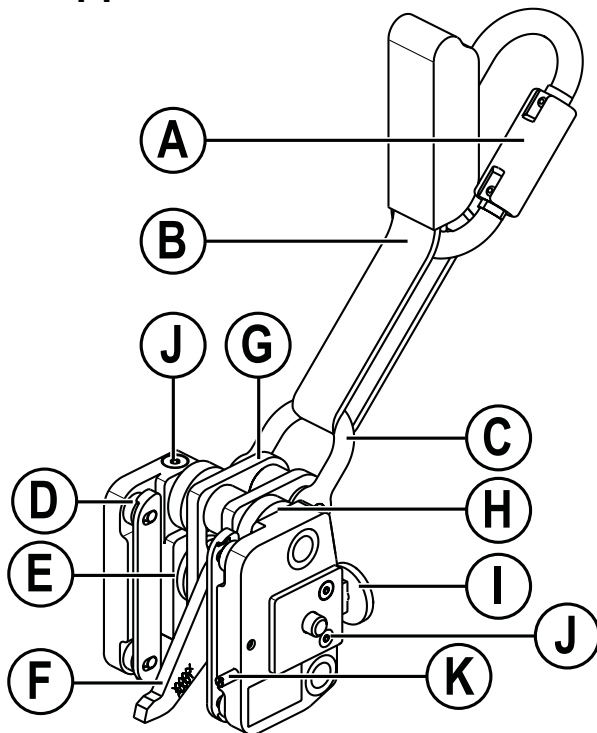

Fig. 13
The safety-runner (Fig. 13 and 14) is functional if it meets the following criteria:
- GÜFA Flexx only (Fig. 13):